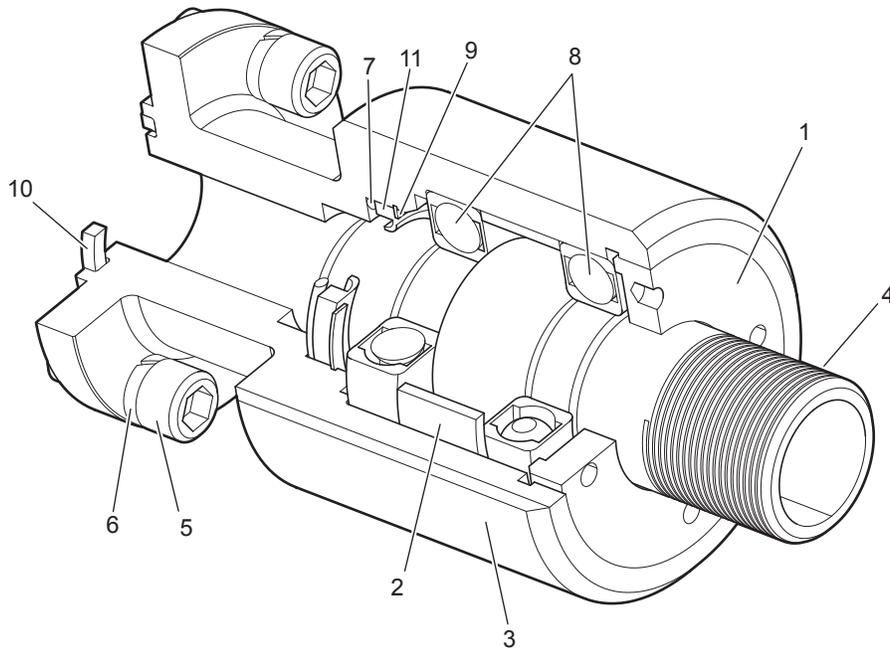

Figure 1
A replacement kit is available to allow the rebuilding of the type RH rotorseal (refer to the table under Figure 1 for part numbers and items included). Airflex rotorseals are manufactured with quality materials to precision tolerances. These instructions should be followed carefully to assure that the rotorseal is repaired properly. Only Airflex parts should be used. The rotorseal must be removed from its mounting, and repairs should only be made in a clean, dust-free environment.
- 4.3.2 The seal repair kit includes a special seal and snap ring insertion tool. Noting the orientation of the seal lip (see Figure 1), assemble the seal (11) onto the installation tool and press the seal into the housing bore until it rests evenly against the o-ring. Remove the installation tool.